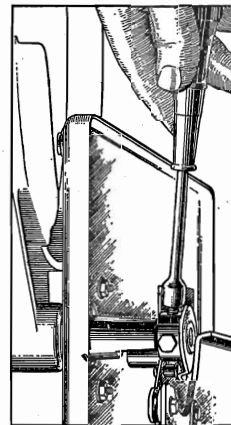

Figure 9—Magazine adjustments
- (b) Improper setting of magazine. The horizontal swing of the magazine should be so adjusted when the mechanism is out of cycle that the outer surface at its nearest point to the nearest side of the turntable spindle is $5\frac{1}{32}$ ". This can be done by loosening the two screws as shown in Figure 9, moving the magazine to its correct position and retightening the screws.